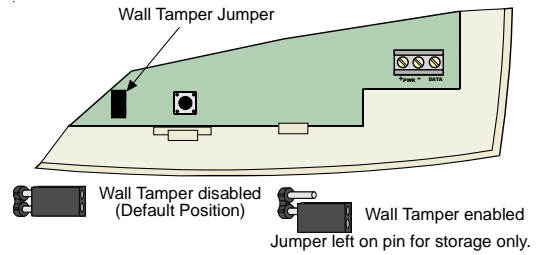

Figure 3 - Wall Tamper Jumper
- Move the Wall Tamper Jumper as shown in Figure 3.